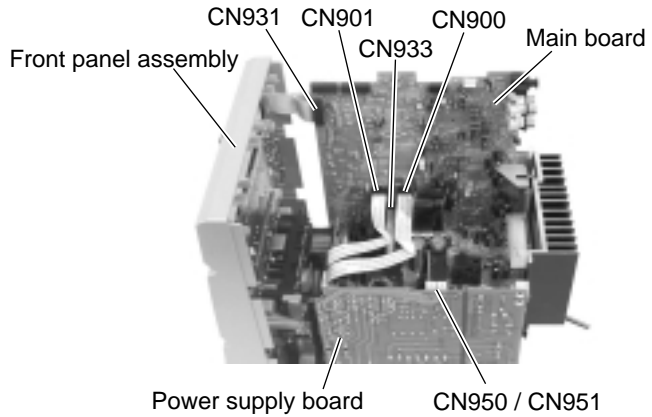

Fig.13
■ Removing the power amplifier board / power amplifier sub board / main board / heat sink (See Fig.13 to 21)